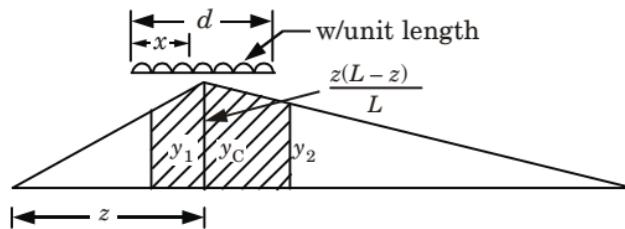

Fig. 4.6.3. Position of load for maximum moment.
6. Let the position of the section be as shown in Fig. 4.6.3 from to this Fig.